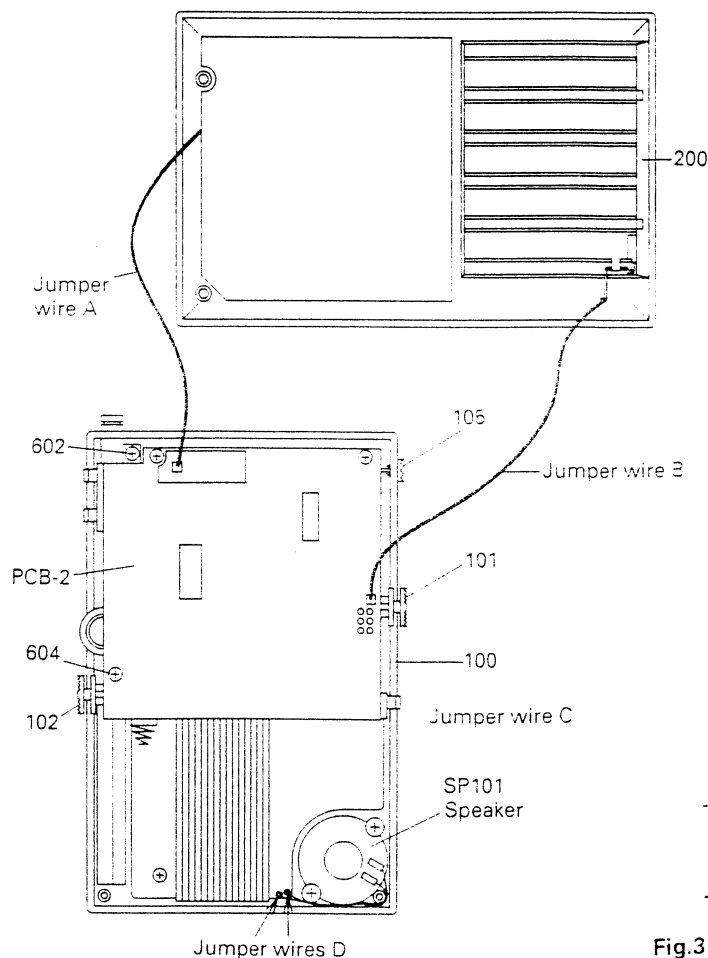

Fig.3
- Take off solder to remove the jumper wire A from PCB-2, Fig.3
- Take off solder to remove the jumper wire B from PCB-2, Fig.3
- Take off solder to remove the jumper wire C from PCB-2, fig.3
- Take off solder to remove the Speaker jumper wire D from PCB-2, Fig.3
- Remove the screw (602) and (604) fixing the PCB-2.
- Lift the PCB-2 and remove the PCB-2 from the Front Case (100). Fig.3